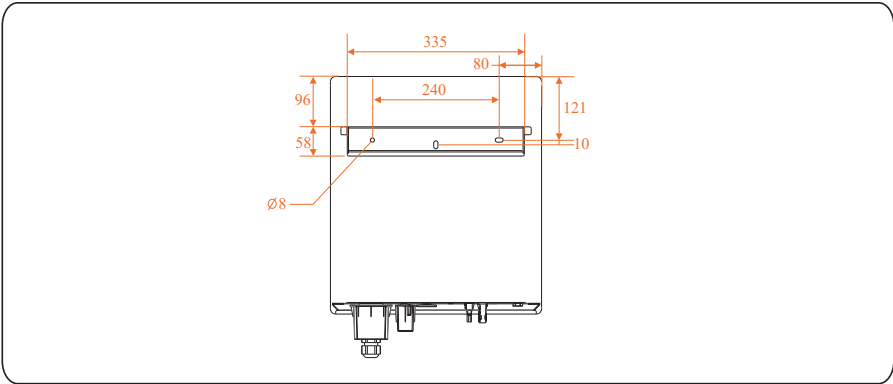

Figure 4.9 Determine the positions for drilling holes (unit : mm)
Step 2 Determine the positions for drilling holes (as shown in Figure 4.9) using the rear panel.